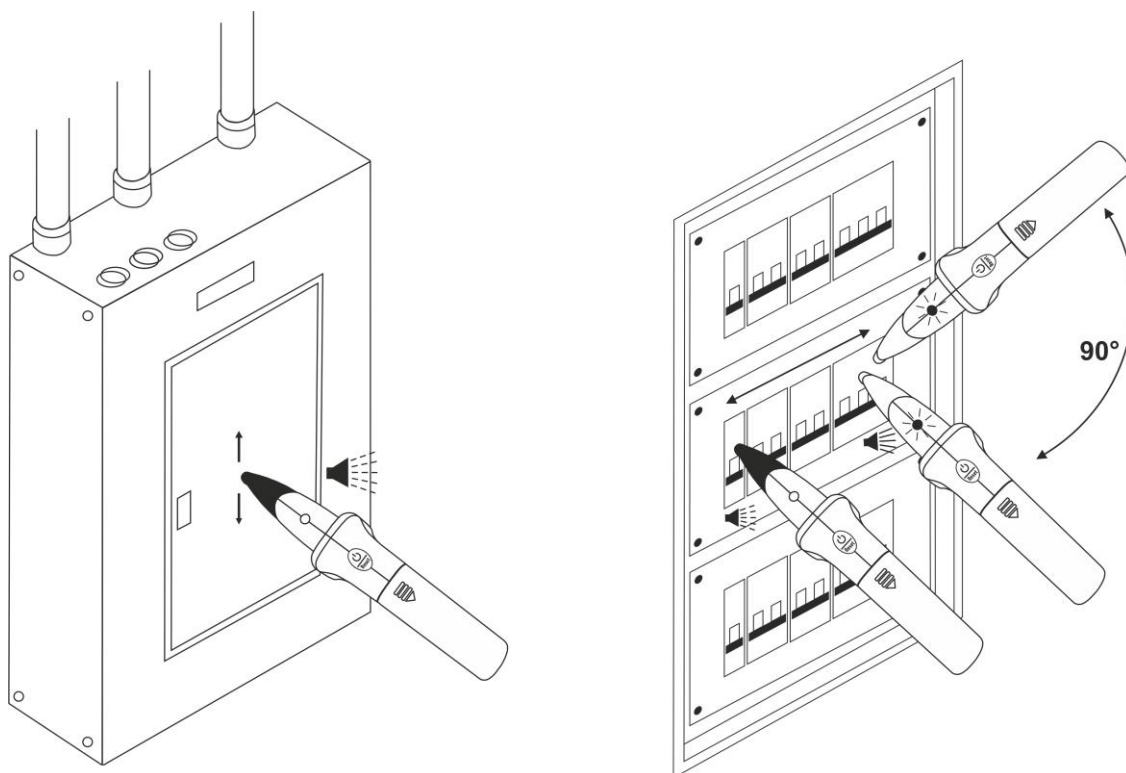

Fig. 4: Localization of protection devices
5. Move towards the control panel next to which the intermittent sound is faster and move the sensitive element in different directions (see Fig. 4 – left side).
- In case of difficulties in detecting the searched for protection device (e.g. two adjacent devices cause the instrument to sound with the same intensity), turn the receiver by 90° (see Fig. 4 – right side) in order to make the search for the signal easier. In general, follow the angle at which the protection device was installed within the panel.